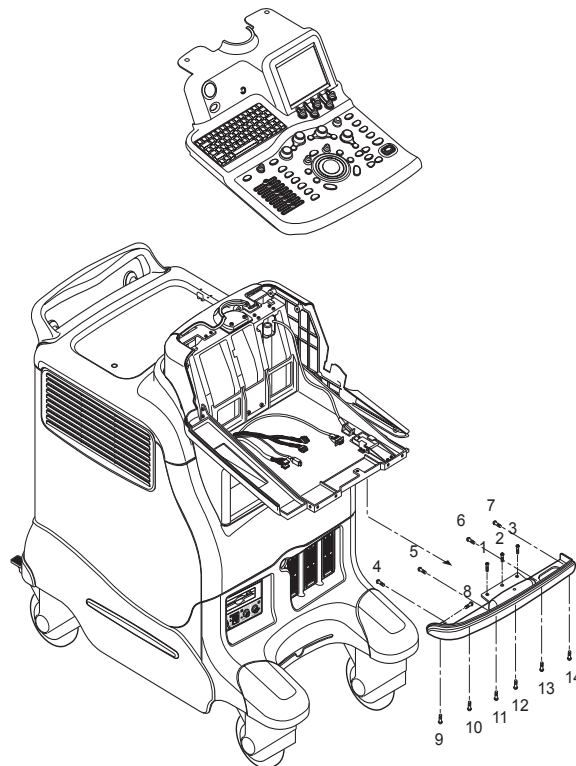

Figure 8-52 Removing Keyboard Front Grip
- 1.) Unscrew fourteen (14) screws (1-14). Refer to Figure 8-52 on page 8-15 .